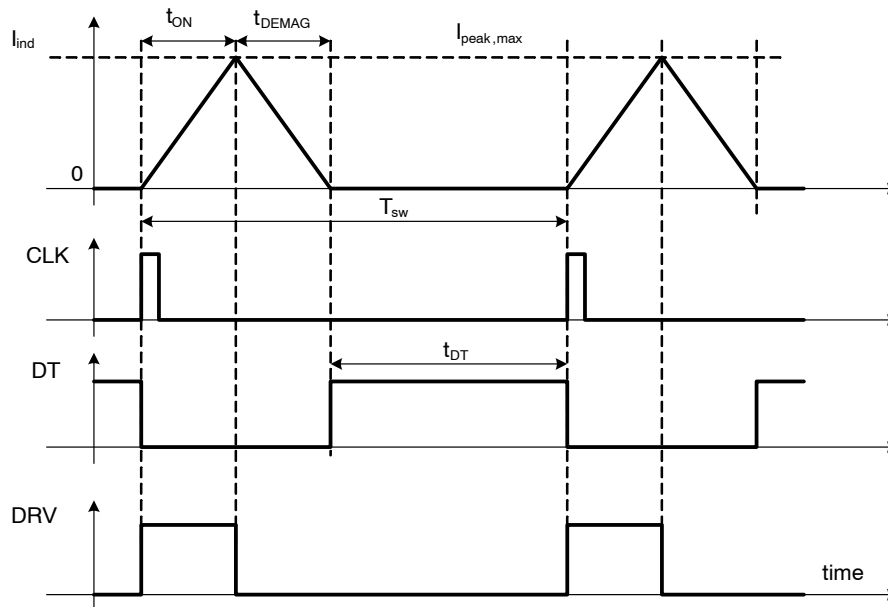

Figure 6. NCP1622 Clock, Dead Time and t_{ON} Waveforms
The Frequency Foldback (FF) system adjusts the on-time versus t_{DT} (see Figure 6) and the output power in order to ensure that the instantaneous mains current is in phase with the mains instantaneous voltage (creating a PF=1).